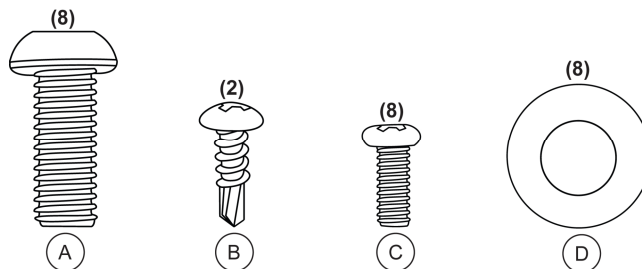

Figure 1
Hardware for Assembly (see Figure 1)
6. Fasten the handrail to the base assembly using the eight (8) M8 1.25 x ¾ screws (Screw "A" from Figure 1), eight (8) M8 washers (D), and the included 5mm Allen wrench.
14. Align the four mounting holes on the back of the display assembly with the four mounting holes in the display support, and fasten the display assembly onto the metal display support. Use the (4) Phillips pan head M4 screws (Screw “C” in Figure 1).
15. Place the pivot bracket screw covers over the pivot screws, and fasten the covers to the back of the display assembly using the (4) Phillips pan head M4 screws (Screw “C”, Fig. 1).
16. Attach the adapter holder to the left side of the handrail using the two (2) #8 x ½ sheet metal screws (Screw “B” in Figure 1).